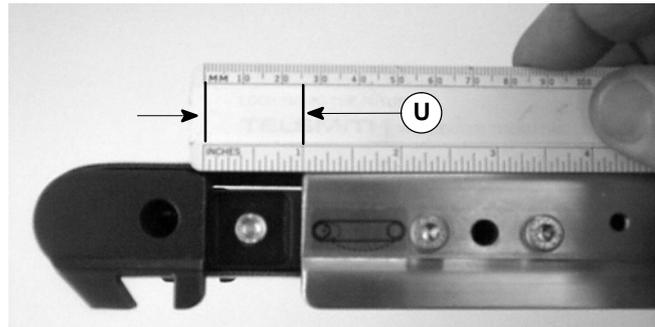

Figure 34
9. On tension end of the conveyor identified with  label (R of Figures 19 & 20), rotate pinion gear (T of Figure 20) counter-clockwise to a distance of 25 mm (U of Figure 34).